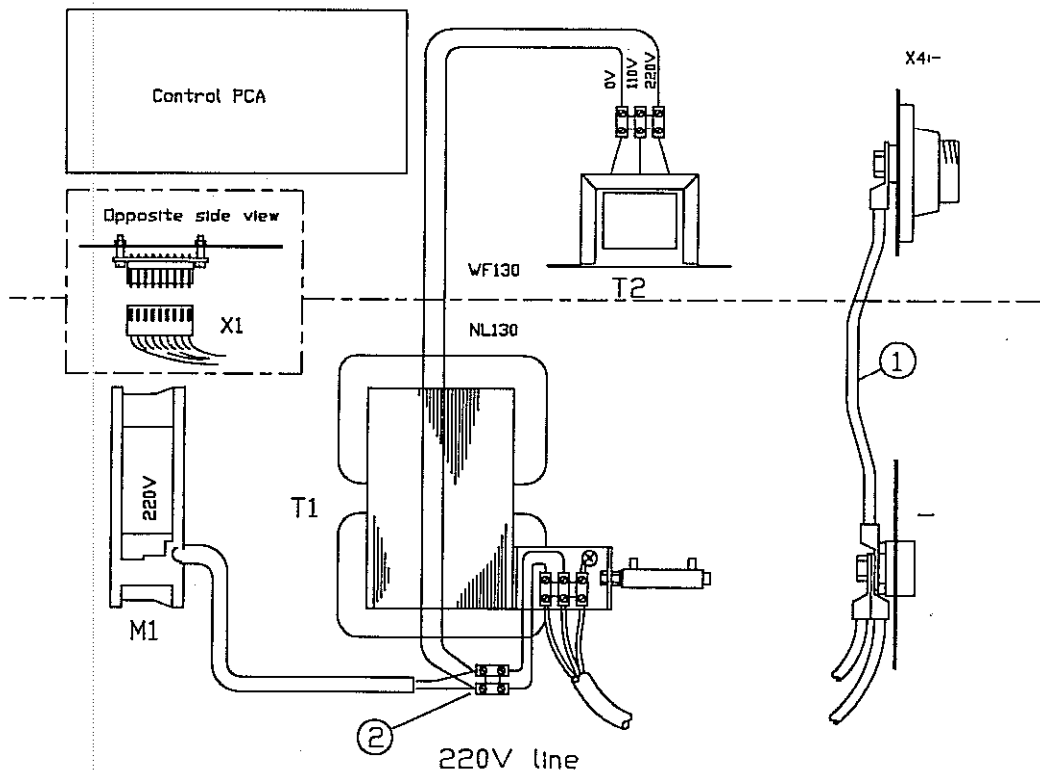

Fig.9.
Then connect the 2-poled terminal block (fig.9, pos.2) to the NL-130 line terminal block. Establish connection between the negative welding terminal of the rectifier and the wire feeder gun terminal (fig. 9, pos.1). Install the new cover